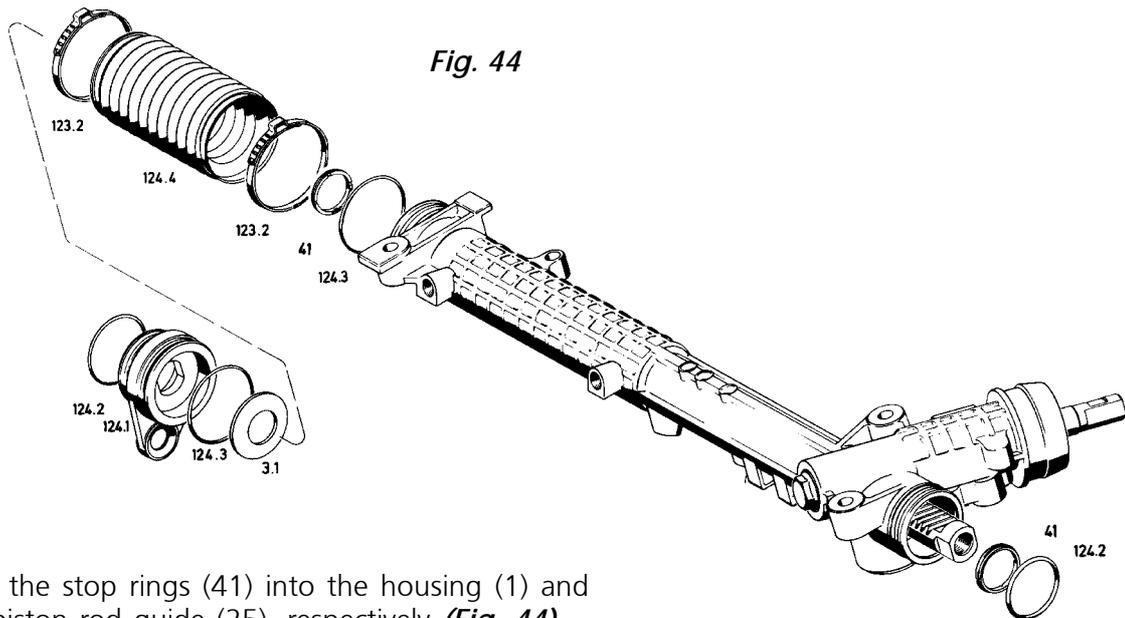

Fig. 44
Press the stop rings (41) into the housing (1) and the piston rod guide (25), respectively (**Fig. 44**).